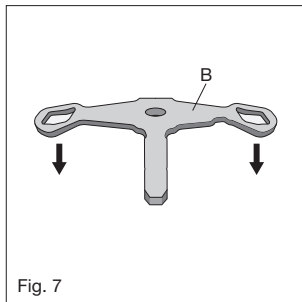

Fig. 7
9. Install hold-down clamp (**B**) with clamp curvature as shown in Figure 7.